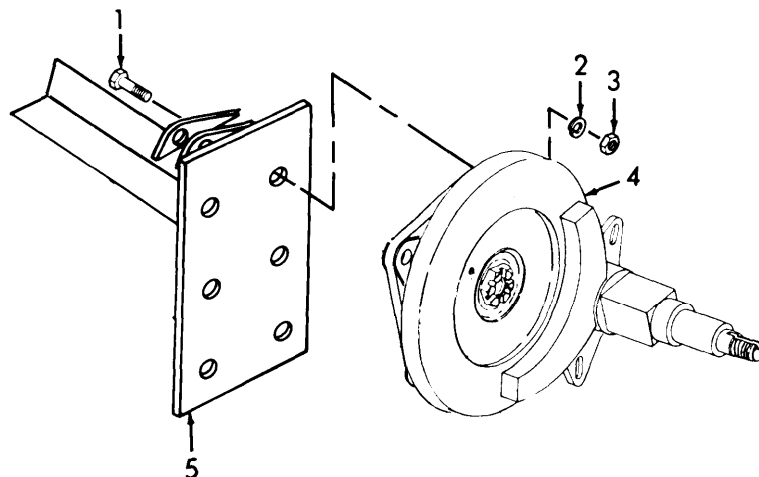

Figure 3-21. Banjo Suspension, Installation.
- (1) Install banjo suspension assembly (4, Figure 3-21) onto axle frame mounting flange (5).
- (a) Aline banjo suspension assembly (4) with axle frame mounting flange (5).
- (b) Install four bolts (1), four washers (2), and four nuts (3).